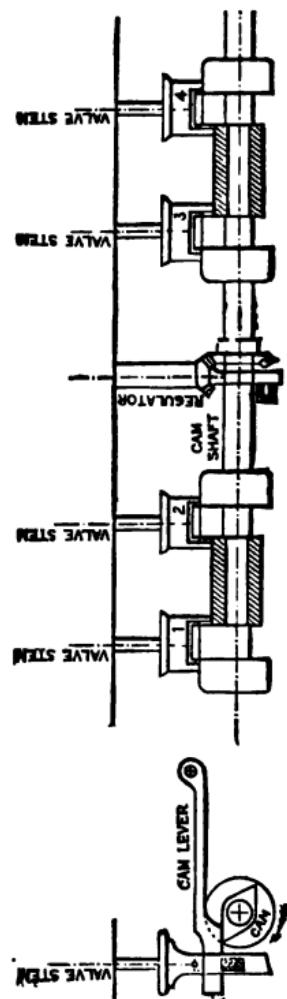

Fig. 132. PUTNAM VALVE GEAR.
A. Before setting the valves, the set screw in the bevel gear on the side shaft (which operates the valve gear) should be screwed up tightly and also the main shaft gear as shown in Fig. 131. The gear *C*, as shown in Fig. 132 on the side shaft, is in the proper position to run the top of the